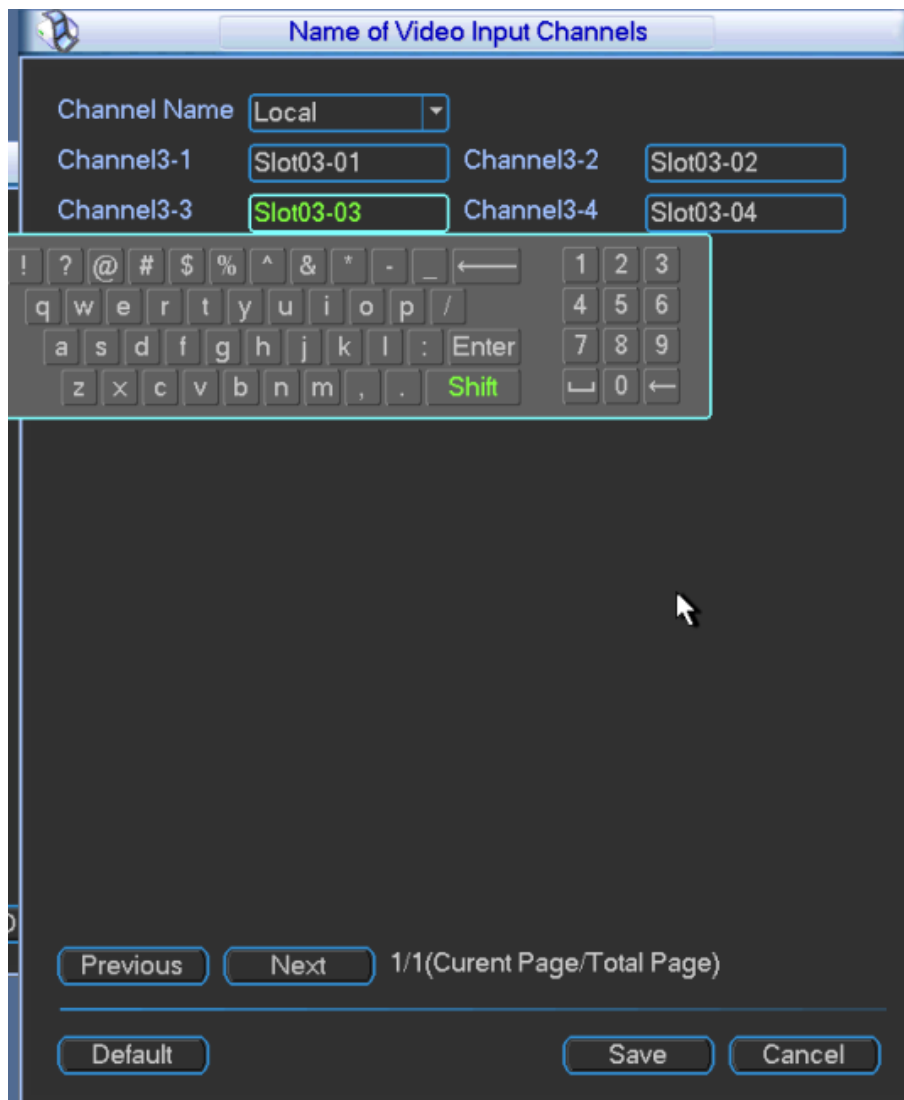

Figure 3-62
Step 1 Click "Modify" in the right of "Channel Name". The system displays "Name of Video Input Channels" interface, as shown in Figure 3-62.